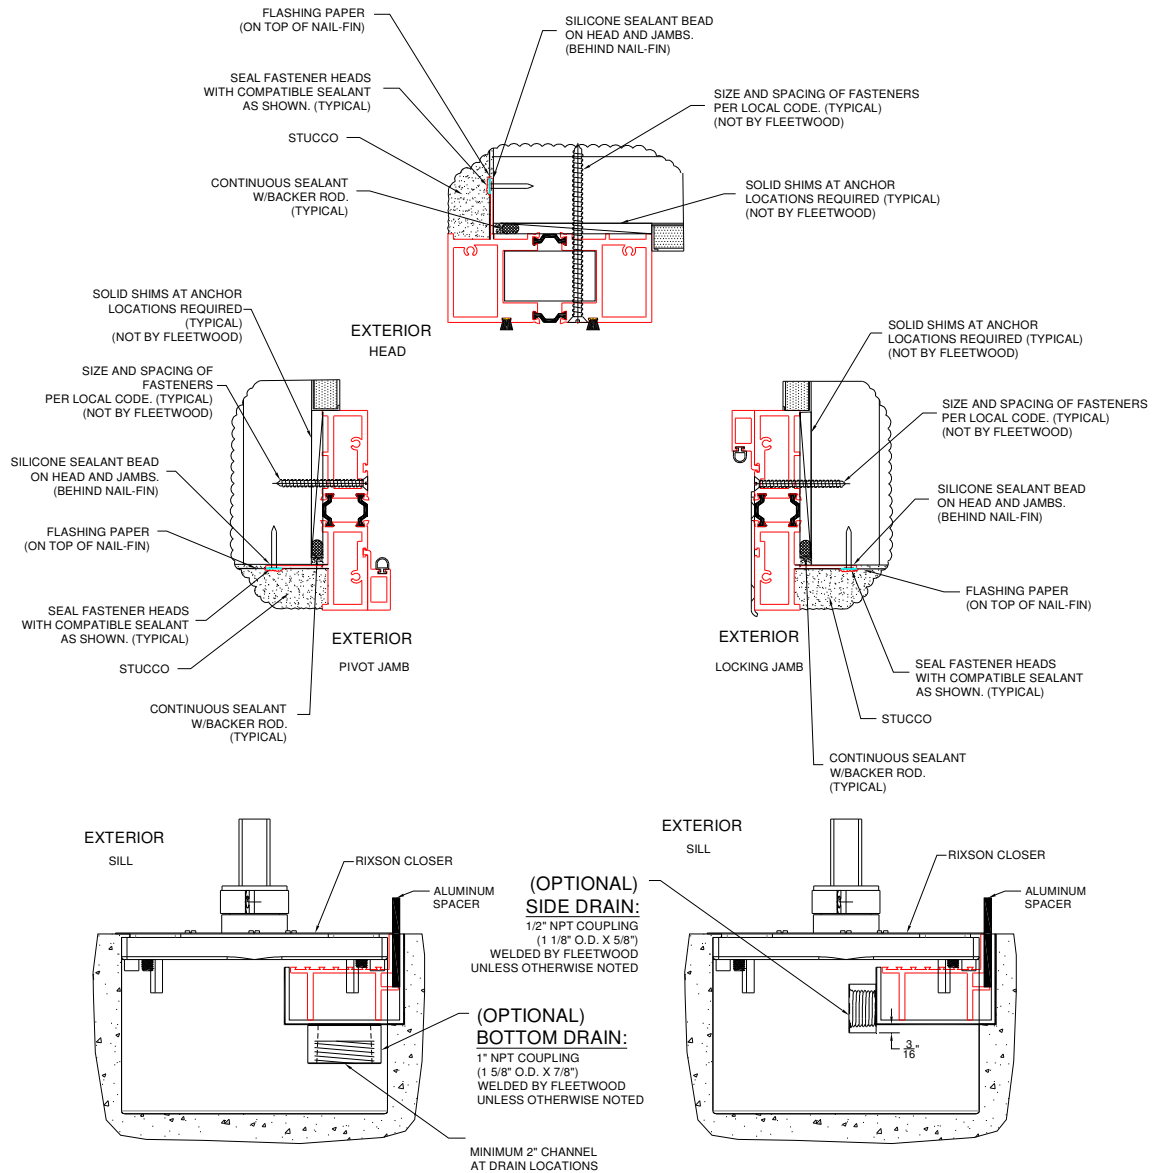

Figure 6:
8. To complete the panel installation, apply backer rod and a complete bed of sealant to the entire exterior and interior joint between the frame and the building structure. Tool the sealant to eliminate bubbles, voids and / or breaks and ensure a completely watertight seal (Figure 6,8).